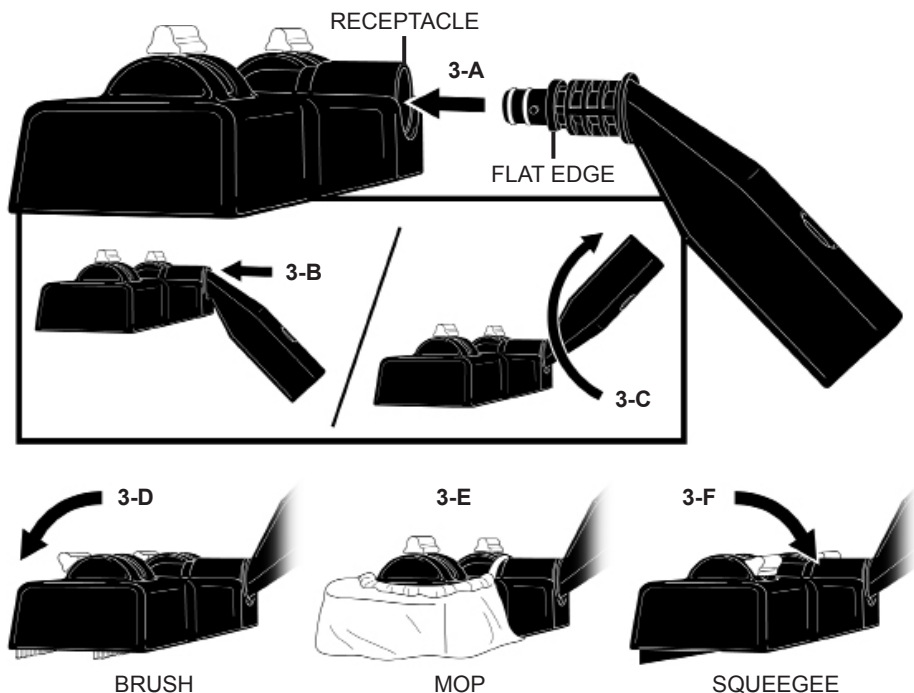

FIGURE 3
1. Align Jet Nozzle and Utility Head as shown (FIGURE 3-A). Flat edge of Jet Nozzle will align with peg inside of Utility Head receptacle.
2. Slide Jet Nozzle into Utility Head, pushing Jet Nozzle as far into receptacle as possible to ensure it is in proper position (FIGURE 3-B).
3. Rotate Jet Nozzle one half turn (180°) to secure it to Utility Head (FIGURE 3-C).
- Forward Position (FIGURE 3-D): lowers brush bristles for use on carpeting or upholstery.
- Neutral (Middle) Position (FIGURE 3-E): for use on hardwood, linoleum or tile surfaces. For best results, attach Cloth Cover when mopping floors.
- Rear Position (FIGURE 3-F): lowers squeegee for use on smooth surfaces such as windows or mirrors.